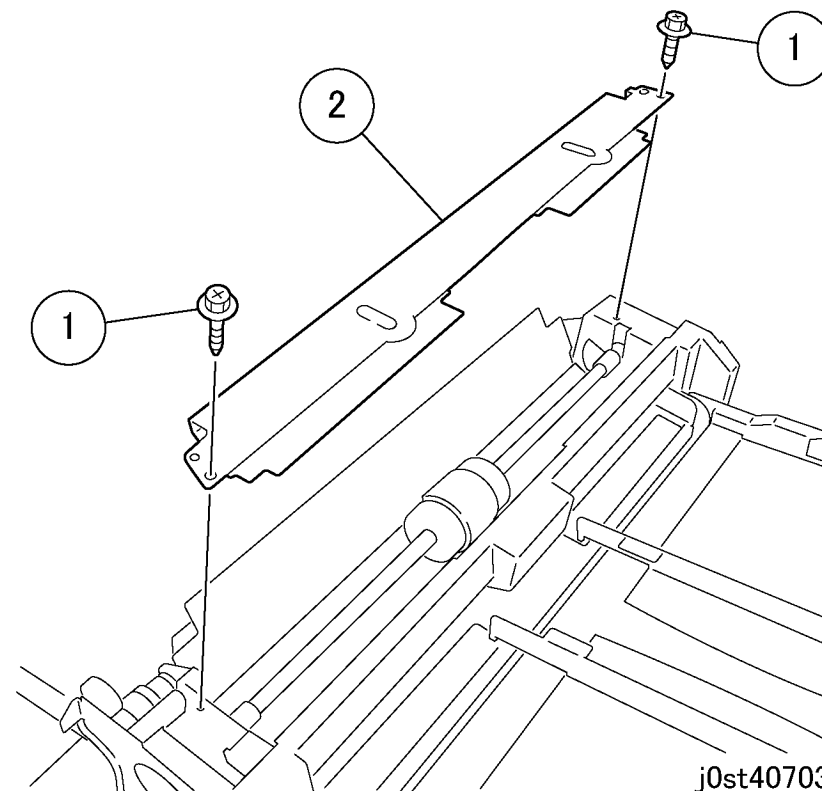

Figure 1 Removing the plate
2. Remove the plate. (Figure 1)